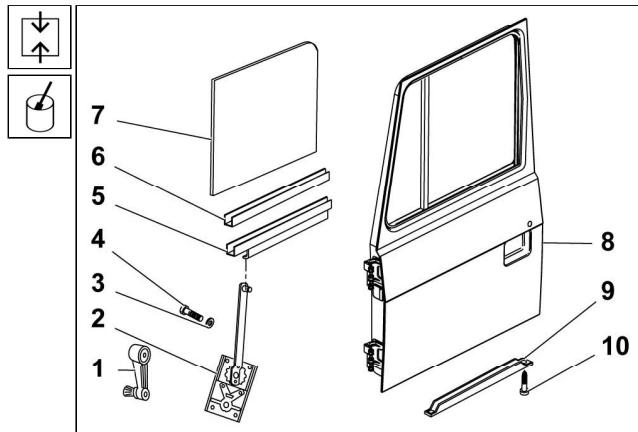

Fig. 13.32 Door glass - installation
8. Fit the drop window crank **1** (See Fig. 13.32) on the shaft of the door window regulator **2**, check the door glass lifting and lowering for a correct function and remove the crank.